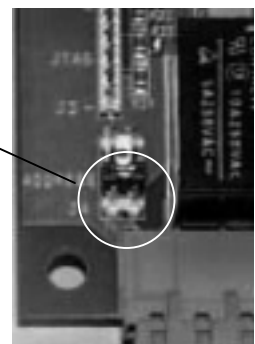

Figure 40: Address Jumper for #2 OM
2. See Figure 40 right. When installing two OM4 Output Module boxes, place the address jumper on the second OM4 on the second row of pins as shown. To do this, take off the four nuts securing the aluminum cover and remove it, exposing the circuit board. Set the jumper and replace the cover.